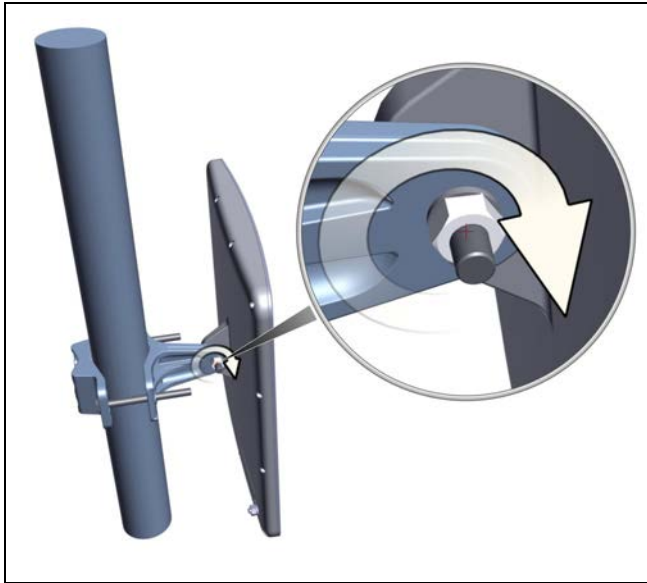

Figure 2-44: Tighten bolt
- Once alignment is complete, tighten the bolt (see Figure 2-44 for the RADWIN 2000 Alpha INT).